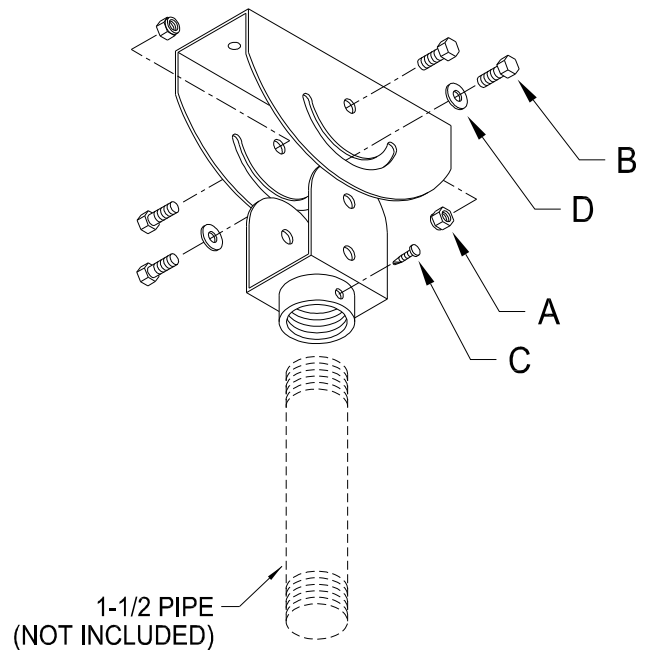

Figure 1
3. Assemble the Pivoting Plate inside the Mount Plate. See Figure 1. Leave the fasteners loose.